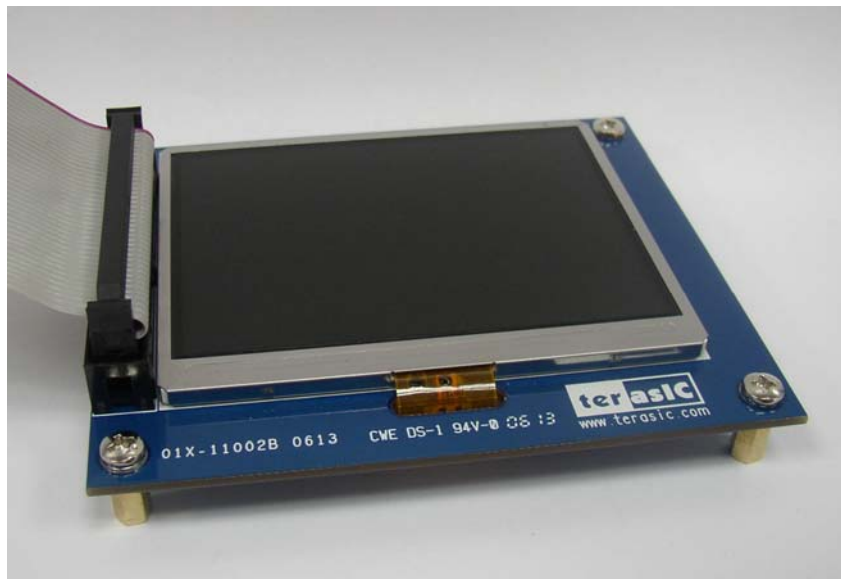

Figure 1.2 Connect the IDE cable to the TRDB LCM board
1. Connect the IDE cable to the back of the TRDB\_LCM board, as shown in Figure 1.2.